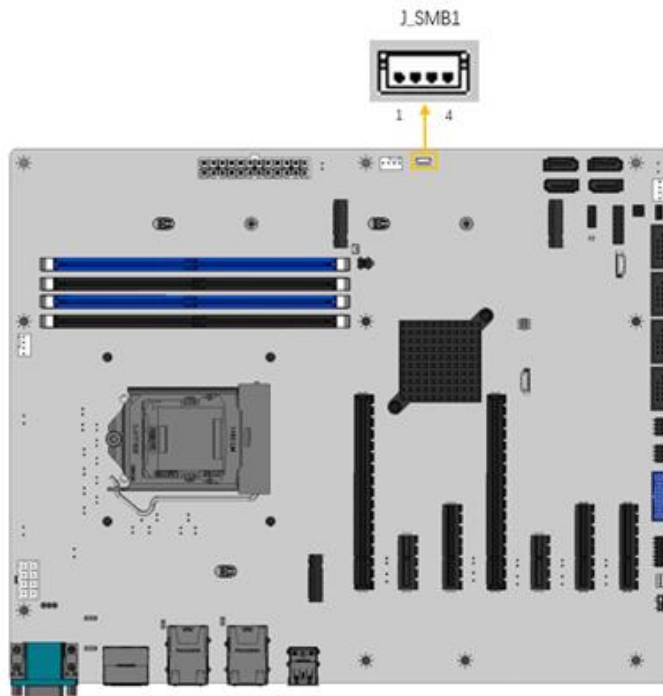

Figure 3-16: SMBus Connector Location
- CN Location:** See Figure 3-16